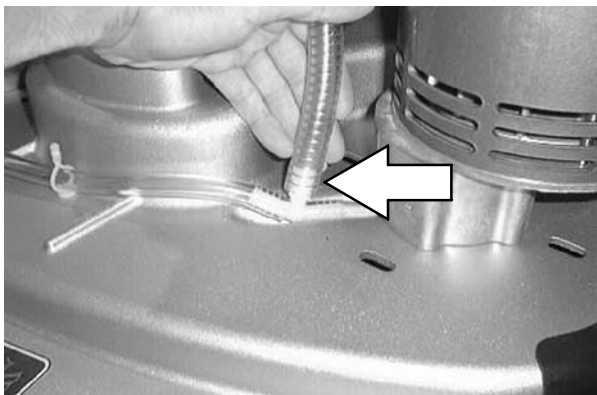

FIG. 1
1. Disconnect the solution line from the tee fitting. Refer to FIG. 1.